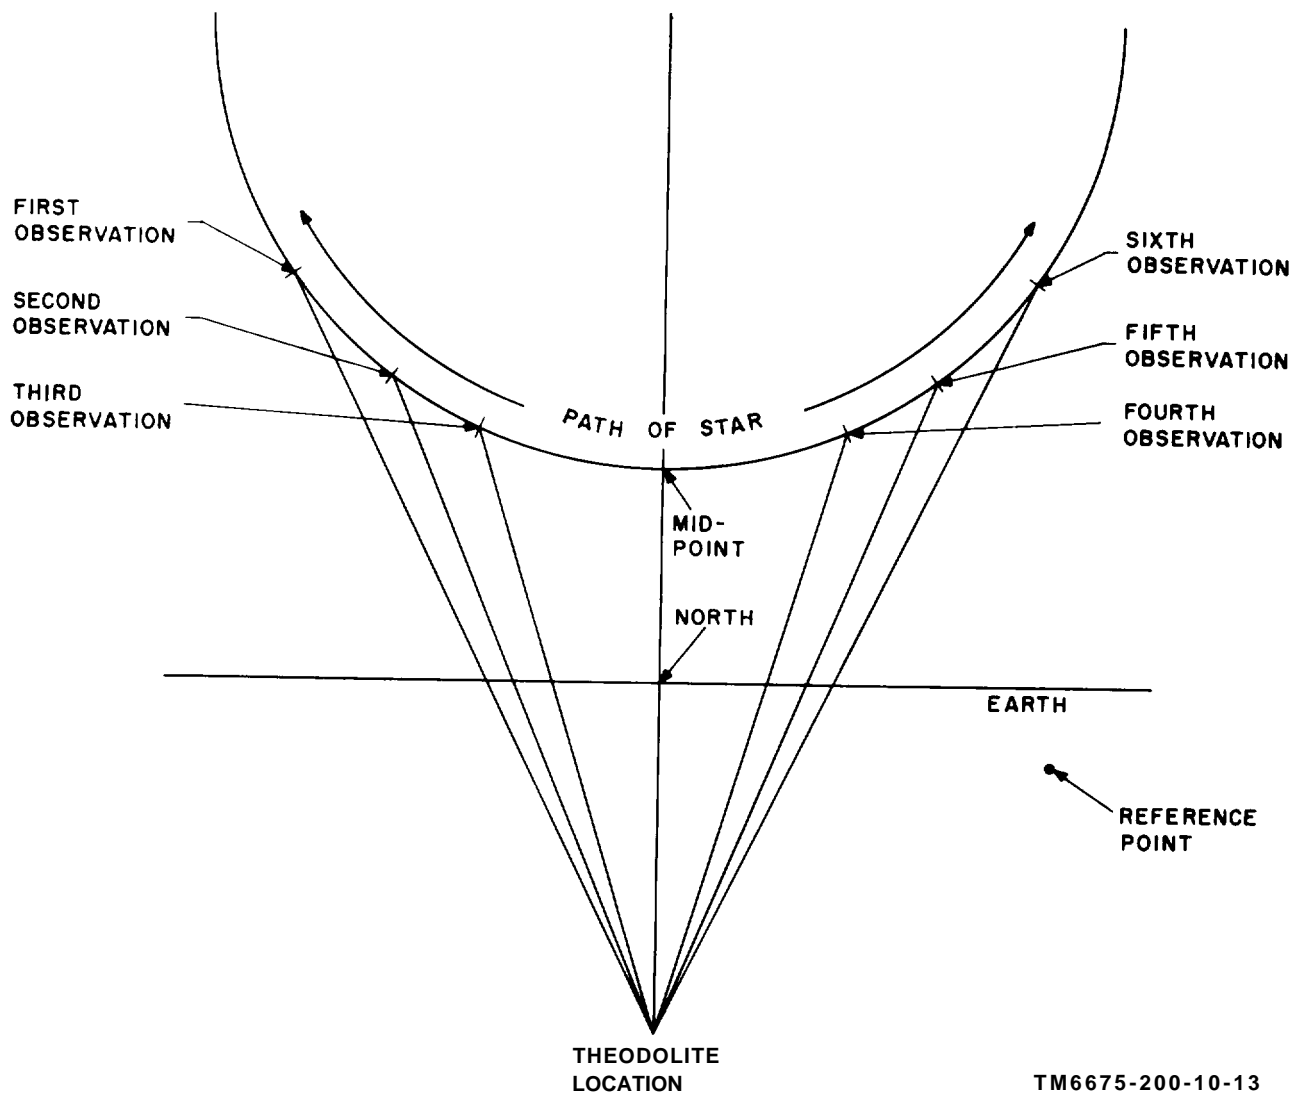

Figure 11. Determination of true north by equal angles.
- (8) Track the star (fig. 11) and note the azimuth and elevation when the star is approximately 2 hours from culmination during its descent.
- (9) Make two additional observations at 20-minute intervals and note the azimuth and elevation.
- (10) Track the ascent and note the azimuth when the elevation of the star is exactly the same as the third observation, the second observation and the first observation.
- (11) Determine the midpoint of each of the following azimuths noted in (8) through (10) above:
- (12) Determine the average azimuth of the three midpoints ((11) above). Subtract the average azimuth of the three midpoints from 360° .